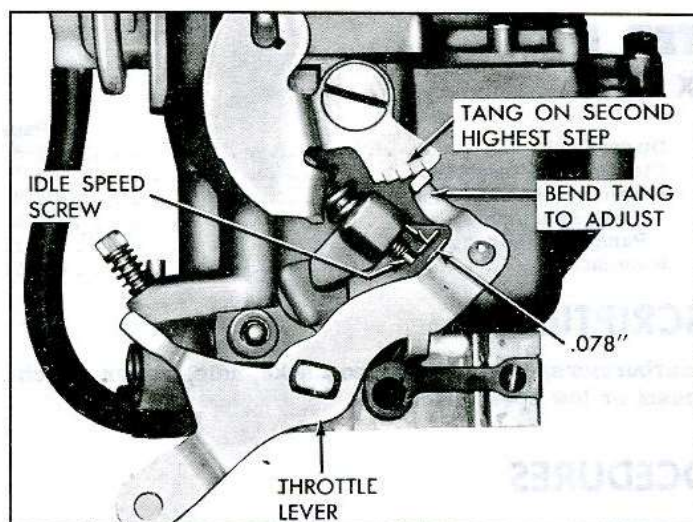

Fig. 16—Fast Idle Adjustment
- With throttle lever on second highest step of fast idle cam, bend tang to obtain .078" clearance between idle speed screw and throttle lever (fig. 16).